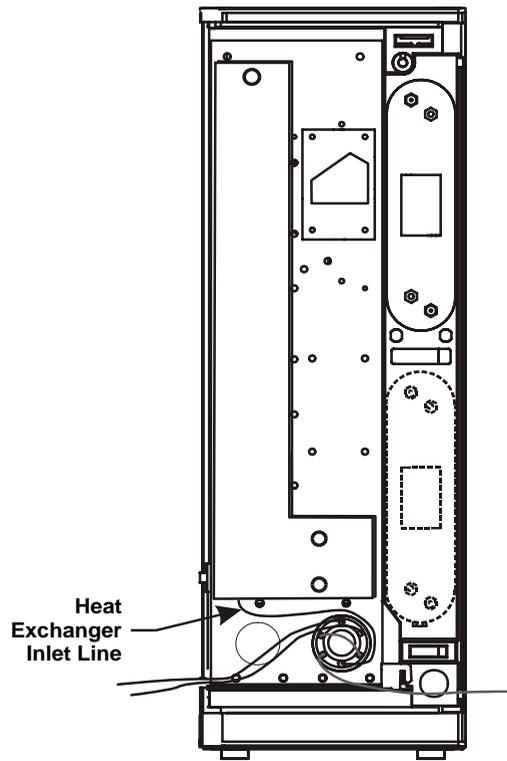

Figure B-10. Injection Valve Connection to the Heat Exchanger
5. Connect the line from the heat exchanger inlet in the thermal compartment (see Figure B-10) to port 3 on the injection valve.